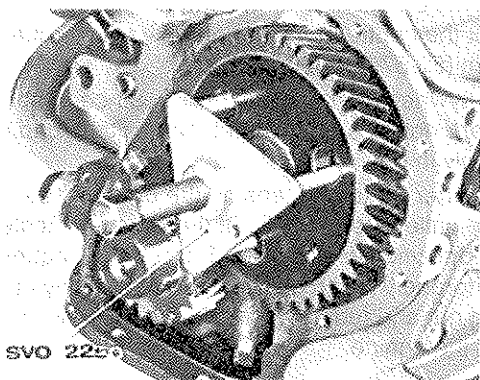

Fig. C12. Removing the camshaft drive (4-cyl. engine)
3. Remove the camshaft nut and pull off the gear with puller SVO 2250, see Fig. C12.
3. Remove the camshaft nut and pull off the camshaft gear with puller SVO 2250, see Fig. C12.